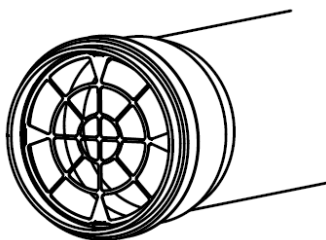

Figure 9
4. Optional: To prevent animal entry into the Polyflue pipe, install the optional screen termination (HVST). To install, remove the pipe gasket and insert the screen into the pipe until it stops (Fig 9).